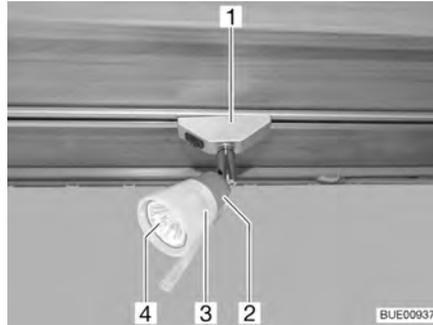

Fig. 210 Halogen spotlight (movable)
- Turn the halogen spotlight (Fig. 210,1) by 90° and remove from rail.
- Turn the lamp shade (Fig. 210,3) in an anticlockwise direction.
- Withdraw lamp shade complete with halogen bulb (Fig. 210,4) carefully from the holder (Fig. 210,2).